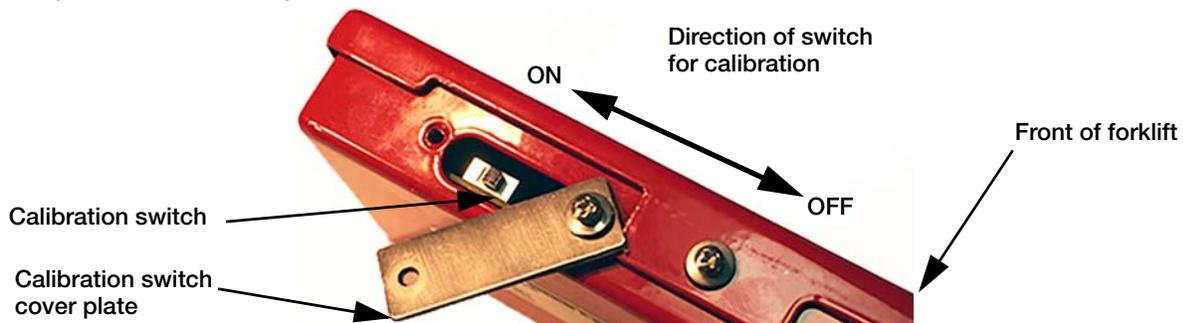

Figure 5-2. J-Box Calibration Switch Location
1. Place calibration switch into the closed position (Figure 5-2 on page 46), toward the left-hand side of the j-box when standing in front of the scale (toward load cell #1).
14. Place the calibration switch into the closed position (Figure 5-2 on page 46), toward the left hand side of j-box when standing in front of the scale (toward load cell #1).